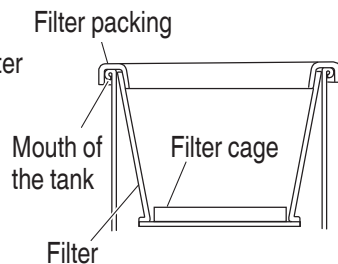

Fig. 18
- (3) Check that the filter packing is put on the mouth of the tank. (see Fig. 18 on page 48)
- (4) Check that the filter cage is on the bottom of the filter. (see Fig. 18 on page 48)